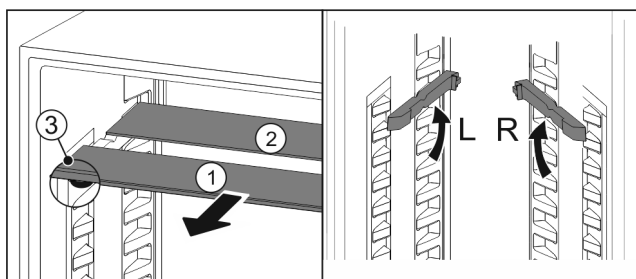

Fig. 104
- Pull the glass panels out Fig. 104 (1) from the front, one at a time.
- The glass panel Fig. 104 (1) and trim strip are at the front.
- The stops Fig. 104 (3) point down.